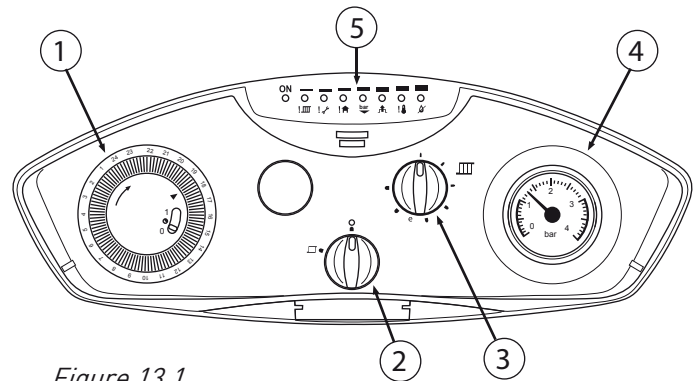

Figure 13.1
13.2 Re-set function: Should the boiler lock out at any time, please check the gas supply and ionisation probe position, the boiler may be re-started by switching to standby "0" position (Switch 2 *Figure 13.1*) waiting 15-30 seconds and switching back to its previous position once the fault has been eliminated.